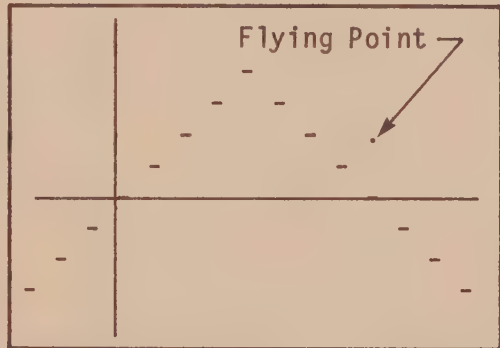
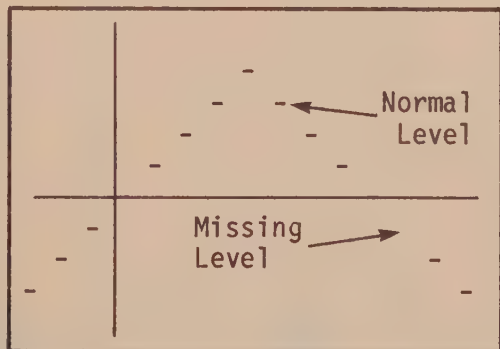

Figure 9-2 - Flying Point
Figure 9-3 - Missing Level
- 9.1.6. Offset control: Slowly adjust the offset from the full counterclockwise to full clockwise position while observing the screen for "flying points" (Figure 9-2) or "missing levels" (Figure 9-3).